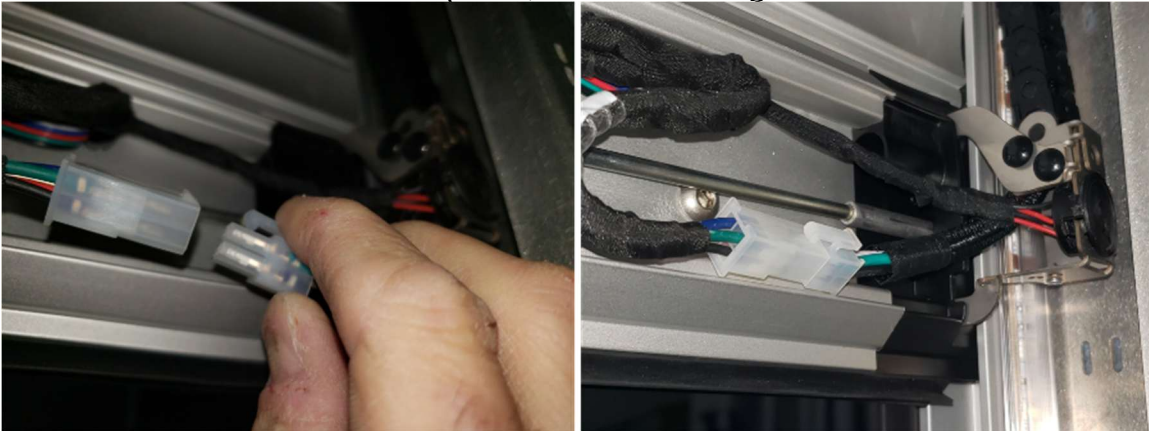

Figure 37 - Electrical connectors for the lit handlebar
6. Connect the handlebar light electrical connector to the mating electrical connector on the cable spacer, as shown in Figure 37.